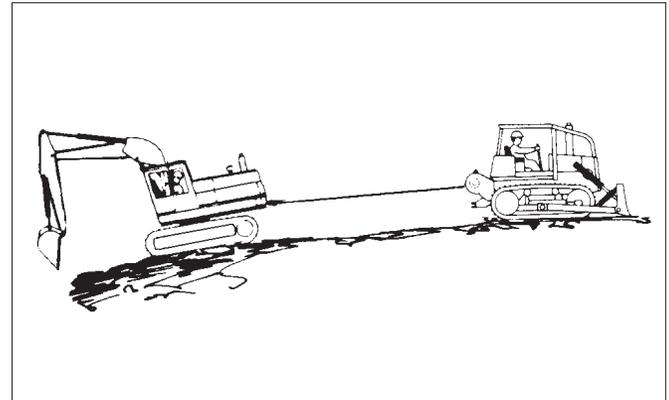

Figure 20 - Moving a Disabled Vehicle (Step B)
**B.** A tractor or skidder equipped with a winch can be used to pull another vehicle from mud or other areas where it cannot move using only the drive wheels or tracks. See Figure 20. Use the following procedure: